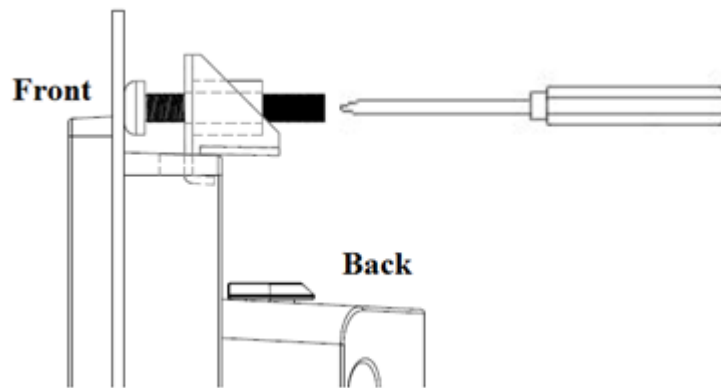

Figure 2.27 Fasten the Hook Bracket
4. Lock screws and fixed machine. (See Figure 2.27)